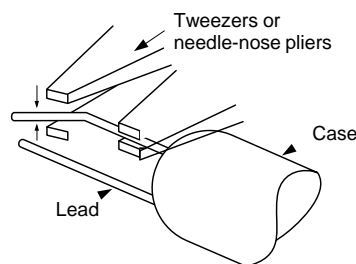

Figure 4
- (2) Unbend the lead by pressing on the bent part from both the upper and lower sides with fixing the bottom of lead tightly. (see Figure 4).